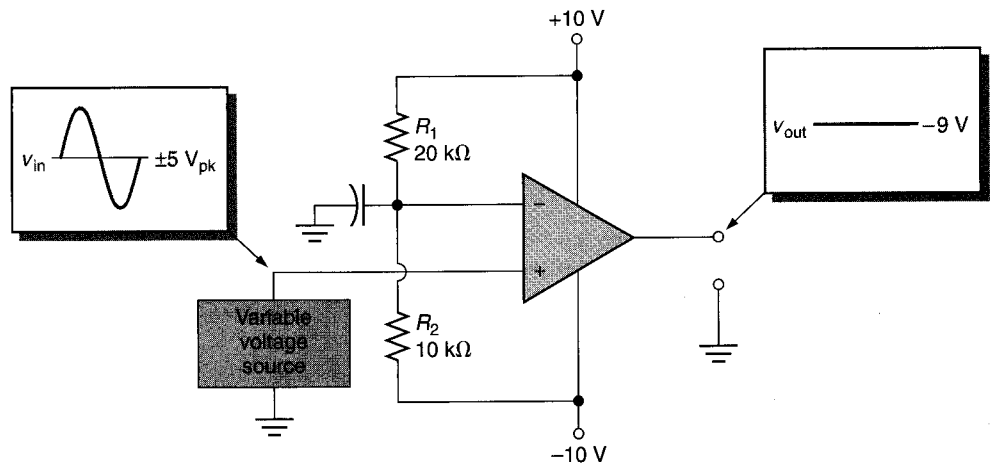

FIGURE 16.43
21. The circuit shown in Figure 16.43 has the readings indicated. Determine the possible cause(s) of the problem.